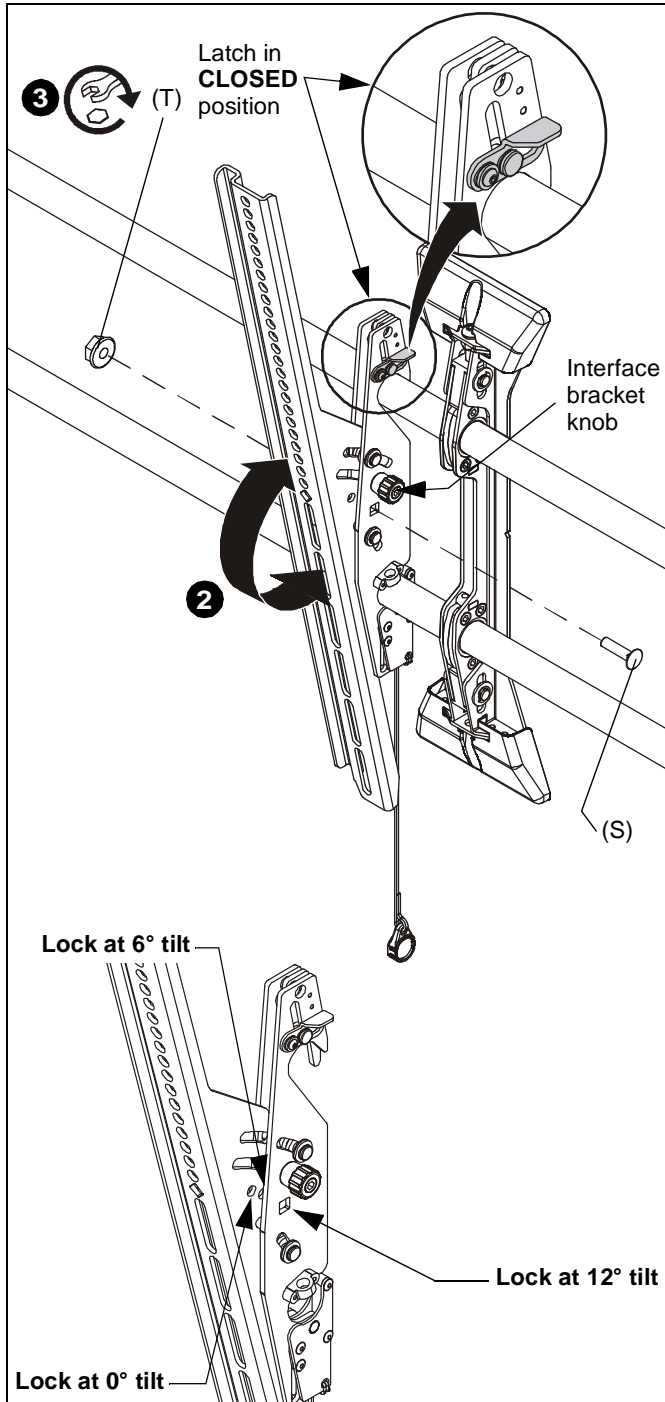

Figure 16
3. **(XTM1U only)** Move latch on top of interface brackets to CLOSED position. (See Figure 16)
2. Adjust tilt as required. (See Figure 16)
3. The tilt may be locked at 0° , 6° or 12° using one 1/4-20 x 1" round head carriage bolt (S) and one 1/4-20 hex nut (T) per interface bracket. (See Figure 16)